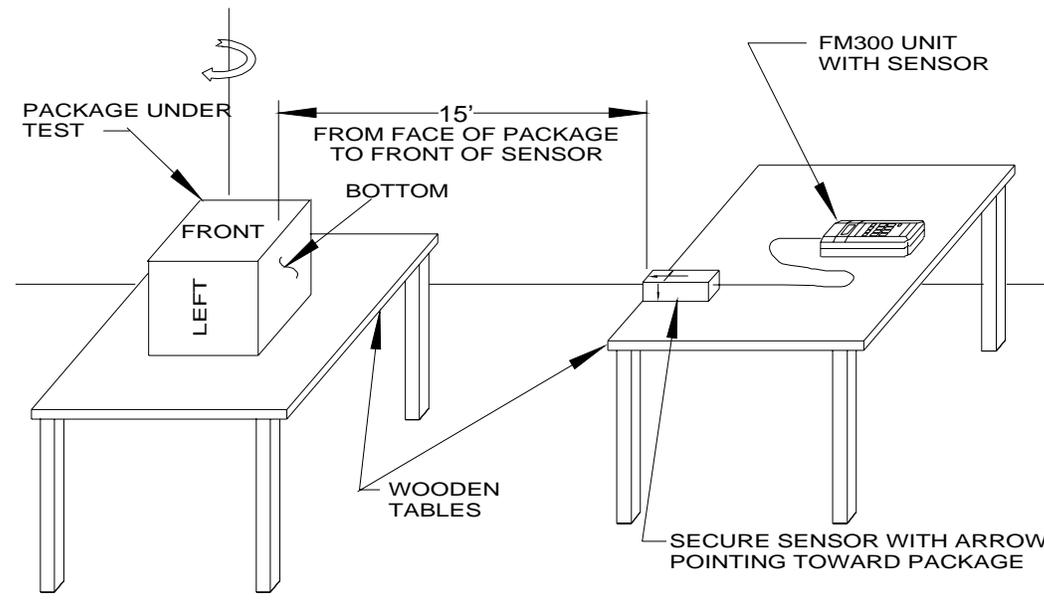

FIG 3 - SECOND POSITION
5. Flip the package up so that the original side facing the FM300 probe is now facing up and the face that was down is facing the FM300 probe (see Fig. 3).